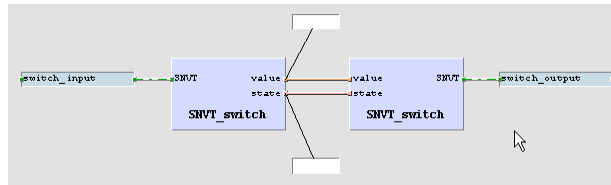

Figure 29: Online Test fields
- Place the fields above and below the drawing as shown in Figure 29, then press the **Save** button to save your changes.